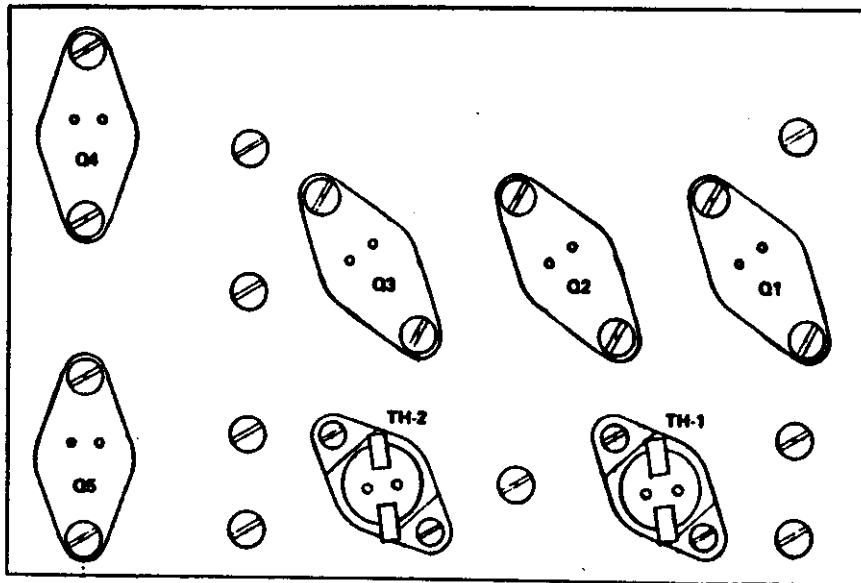

Figure 12 - Heatsink for +6 volt Pass Transistors
2. Heatsink for +6 volt pass transistors. (Figure 12)